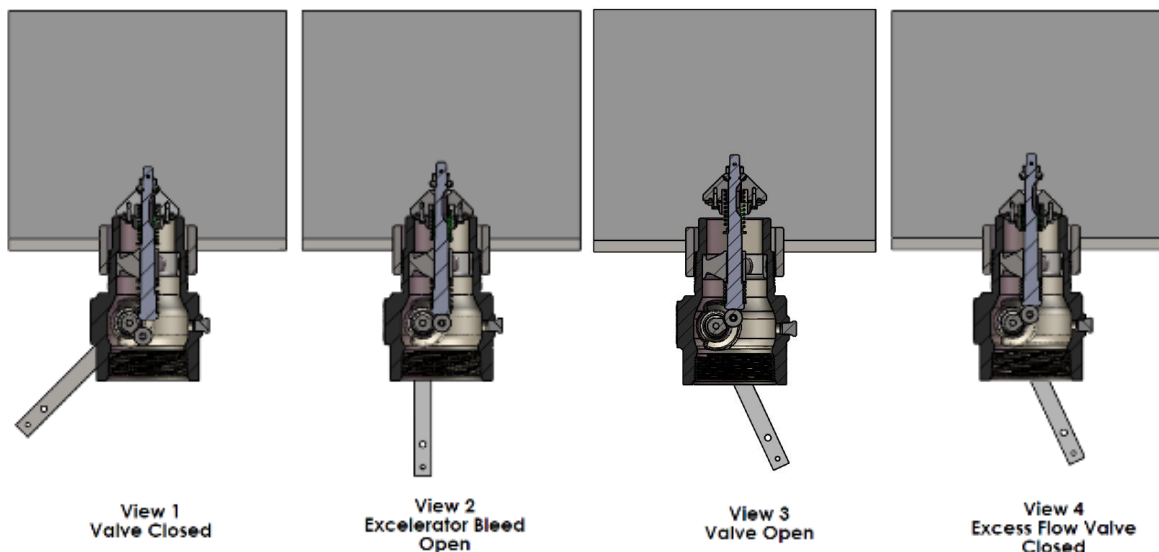

Figure 3: Operational Schematic
3. Move the lever to the half-open (rapid equalizing) position (Figure 3, View 2) to equalize pressure. When the main poppet clicks open, move the operating lever fully open.
Principle of Operation (Figure 3)
Refer to the schematic drawing, Figure 3. In Figure 3, View 1, the valve is held closed by both tank pressure and the valve's closing spring. There is no leakage past the resilient seats in the poppet to the valve outlet in this position.
The valve is opened by moving the operating lever to approximately midpoint in its 70° travel (Figure 3, View 2). This allows the cam to place the rapid equalization portion of the valve stem in the pilot opening, permitting a larger amount of product to bleed downstream than if the operating lever was moved to the full open position.
When tank and downstream pressures have equalized in the bleed position, (after a few seconds), the excess flow spring pushes open the main poppet (Figure 3, View 3) and the operating lever can be moved to the full open position.